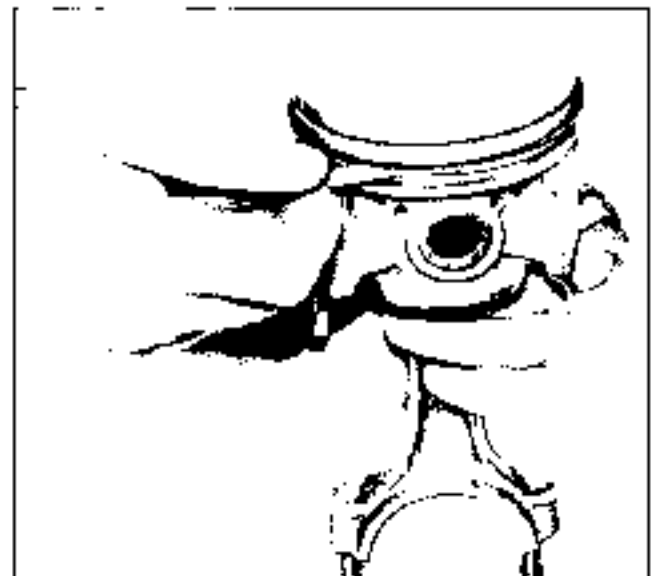

Fig. 6-63 Checking Ring Side Clearance
5. Measure side clearance of rings in ring groove (Fig. 6-63) as each ring is installed. Clearance with new pistons and rings should be .0015-.0050.